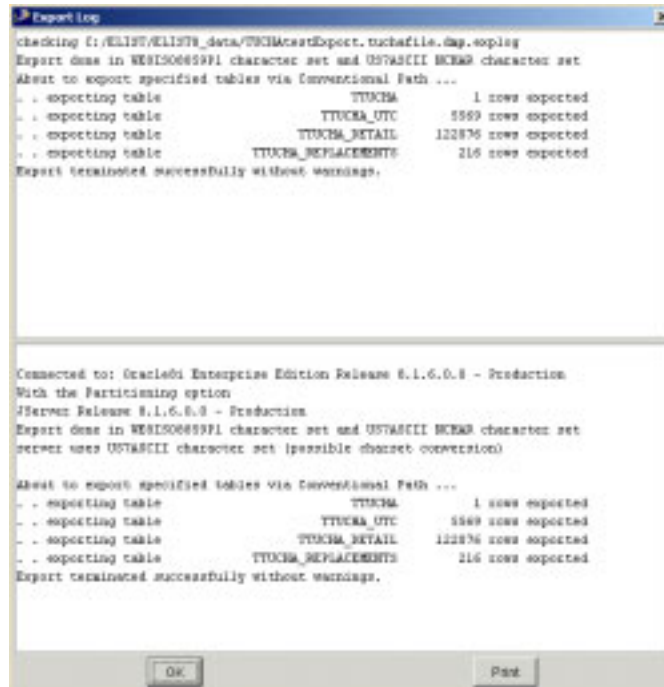

Figure 5.159 Export Log Window
- Click OK. The small Export Tucha window closes and after several moments the Export Log window opens (Figure 5.159).